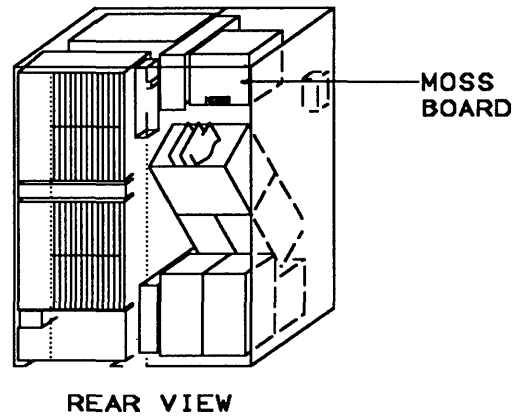

Figure 5-148. Base Frame - Rear View
4. Refer to Figure 5-148 to locate the MOSS board.